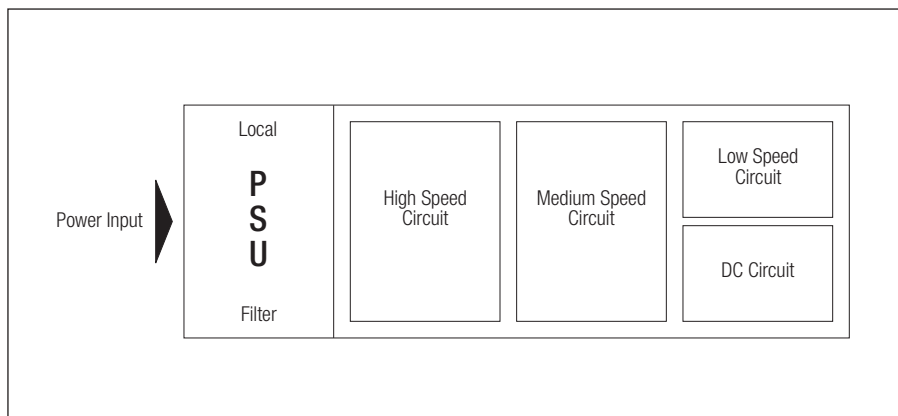

Figure 20: Place High Speed Circuit Close to PSU
- Place high speed sections close to the power line input, slow speed sections furthest away (reduces power plane transients, see figure 20).